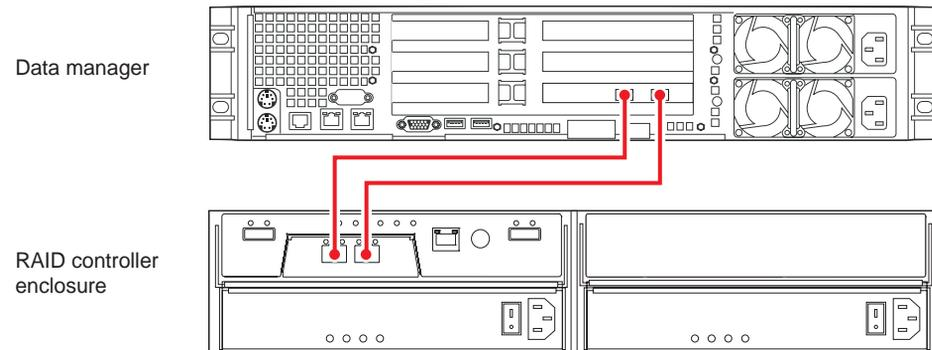

Figure 1-12 One Data Manager One Controller Enclosure (Single SATA RAID Controller)
Use the following steps and Figure 1-12 to cable a data manager to a single-controller SATA RAID enclosure.
1. Connect the Data Manager's Fibre Channel PCI card port A to the RAID controller's host 1 port in the controller enclosure, see Figure 1-12.